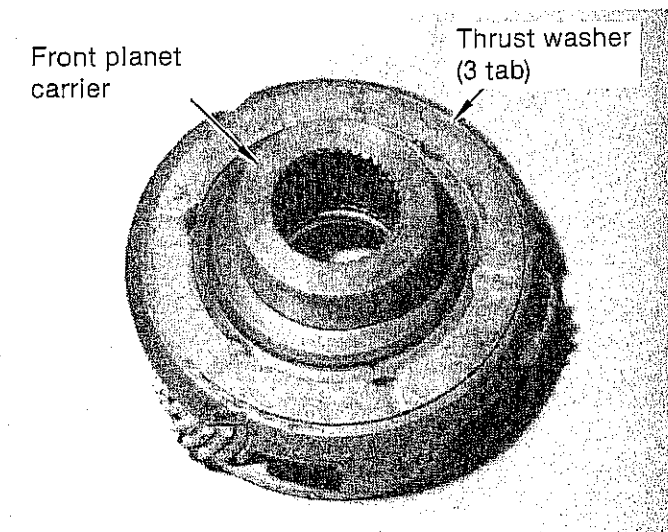

FIGURE 48
STEP 5. Install thrust washer on front face of front planet carrier. (See Fig. 48) Use grease to retain it, if necessary. Lubricate washer with automatic transmission fluid and install planetary into forward clutch hub. Planetary should spin freely. Binding indicates worn or dirty pinion gears. Make sure bearing race is in place with the I.D. flange facing up inside the rear of the carrier.